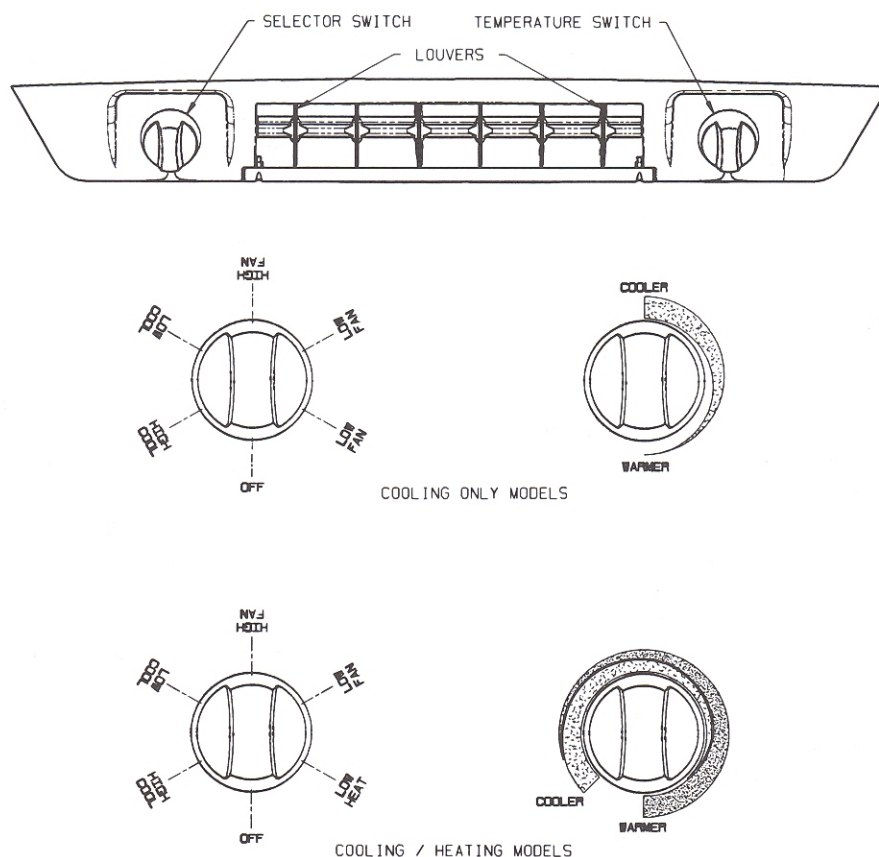

FIGURE 1
A. The Selector Switch - The selector switch determines which mode of operation the air conditioner will be in. By rotating the selector switch, the operator can obtain any system function desired. System functions vary depending upon options of both the roof top unit and ceiling assembly. Figure 1 shows selector switch location and lists all available functions by model.
For "Heat/Cool" models, the thermostat also controls the "ON" and "OFF" temperature settings of the heater assembly. See Figure 1.
I. For Cooling (Refer to Figure 1, page 3).
IV. For Heating ("Elect-A-Heat" Ceiling Assembly Model Only) Refer To Figure 1, page 3).
V. For Air Circulation Only (Refer To Figure 1, page 3).